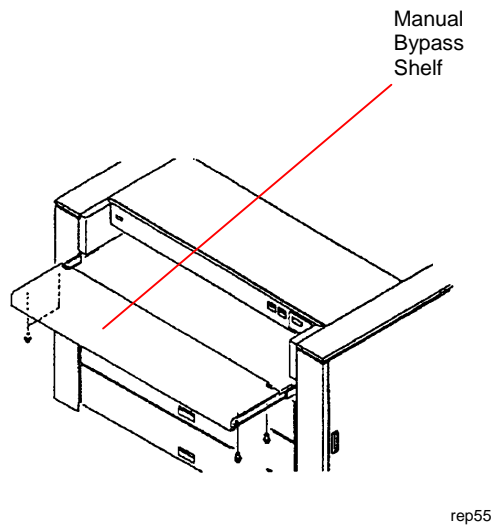

Figure 1. Removing the Manual Bypass Tray
1. (Figure 1): Remove four screws and the Manual Bypass Shelf.